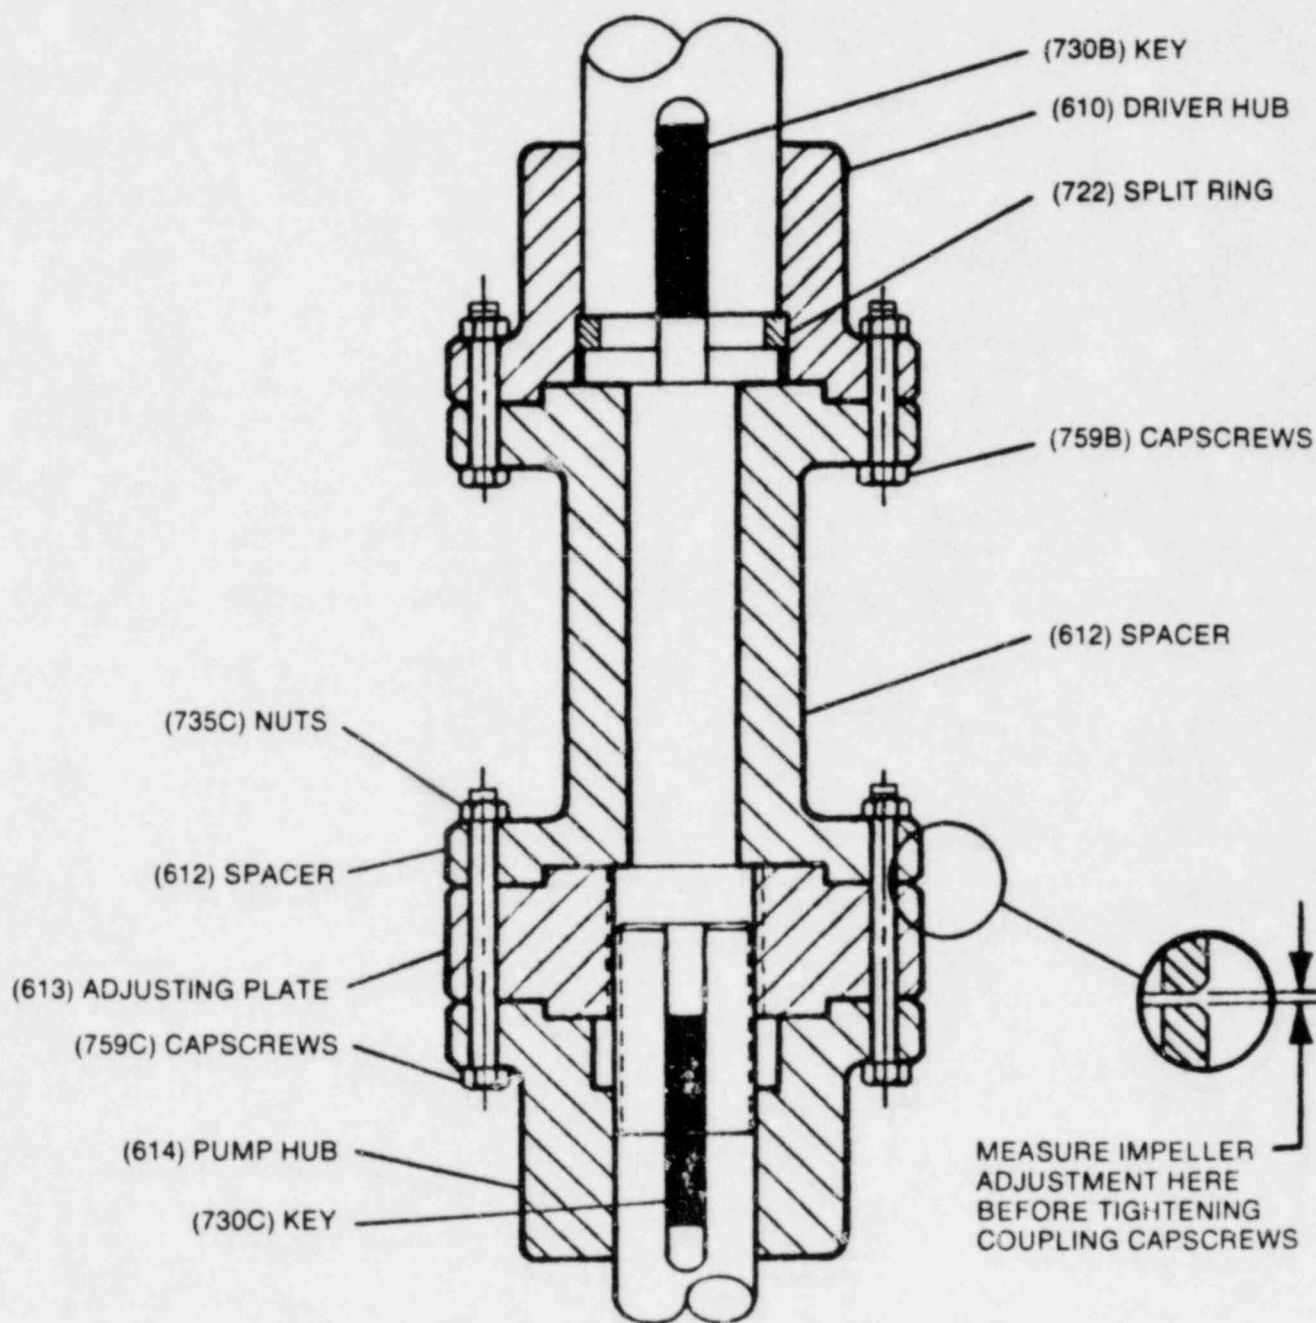

Figure 11-3. IMPELLER ADJUSTMENT
1. With the impellers at the bottom, turn adjusting plate (613), figure 11-3, towards driver hub (610) or spacer (612). Obtain 0.015 inch (0.38 mm) clear-
2. After impeller adjustment, align adjusting plate (613) with pump hub (614), and tightly draw coupling flanges together. This raises impellers amount of clearance between flanges. (See figure 11-3).
2. After impeller adjustment, align adjusting plate (613) with pump hub (614) and spacer (612), insert capscrews (759D) or (759C) and tightly draw coupling flanges together (see figure 11-3).